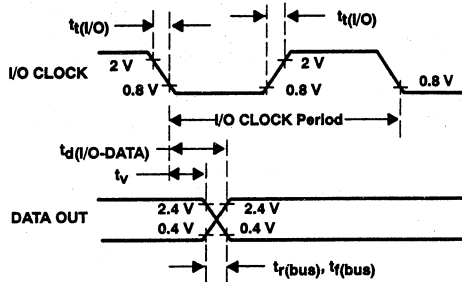

Figure 7. I/O CLOCK and DATA OUT Voltage Waveforms
10. I/O CLOCK period = 1 / (I/O CLOCK frequency) (see Figure 7).